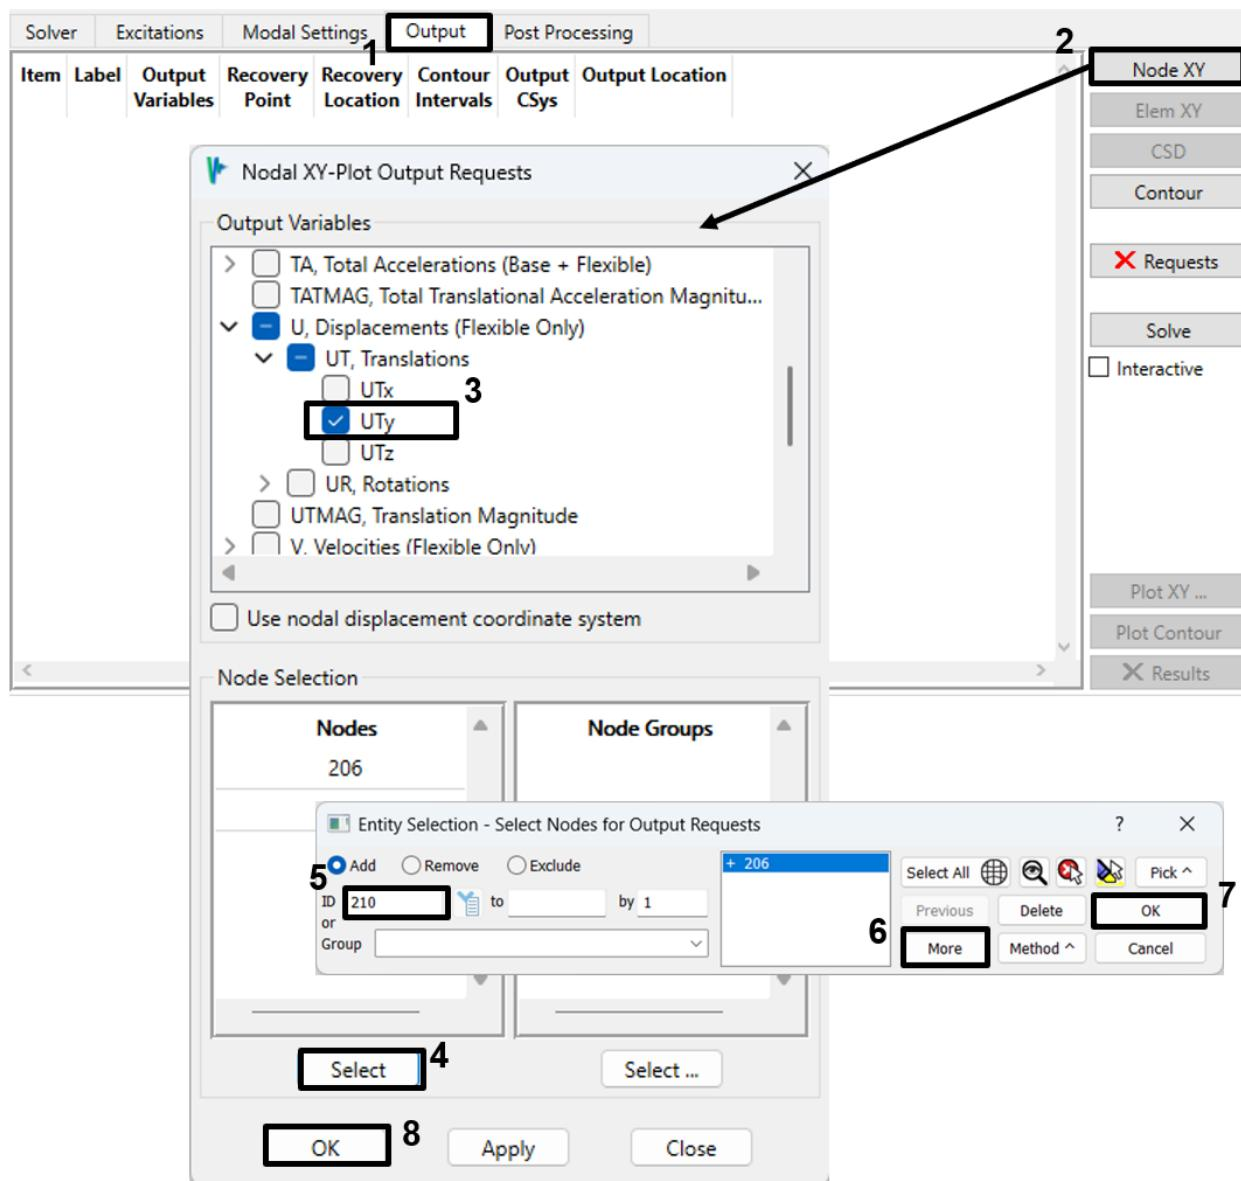

Figure 4-134. Request Y direction displacement XY output for nodes 206 and 210.
10. Go to the *Output* tab. To get a measurement of the relative displacement of the two monitored DOF over time, create a Nodal XY Plot output request for the Y displacement (*UTy*), as shown in Figure 4-134. Select nodes 206 and 210.